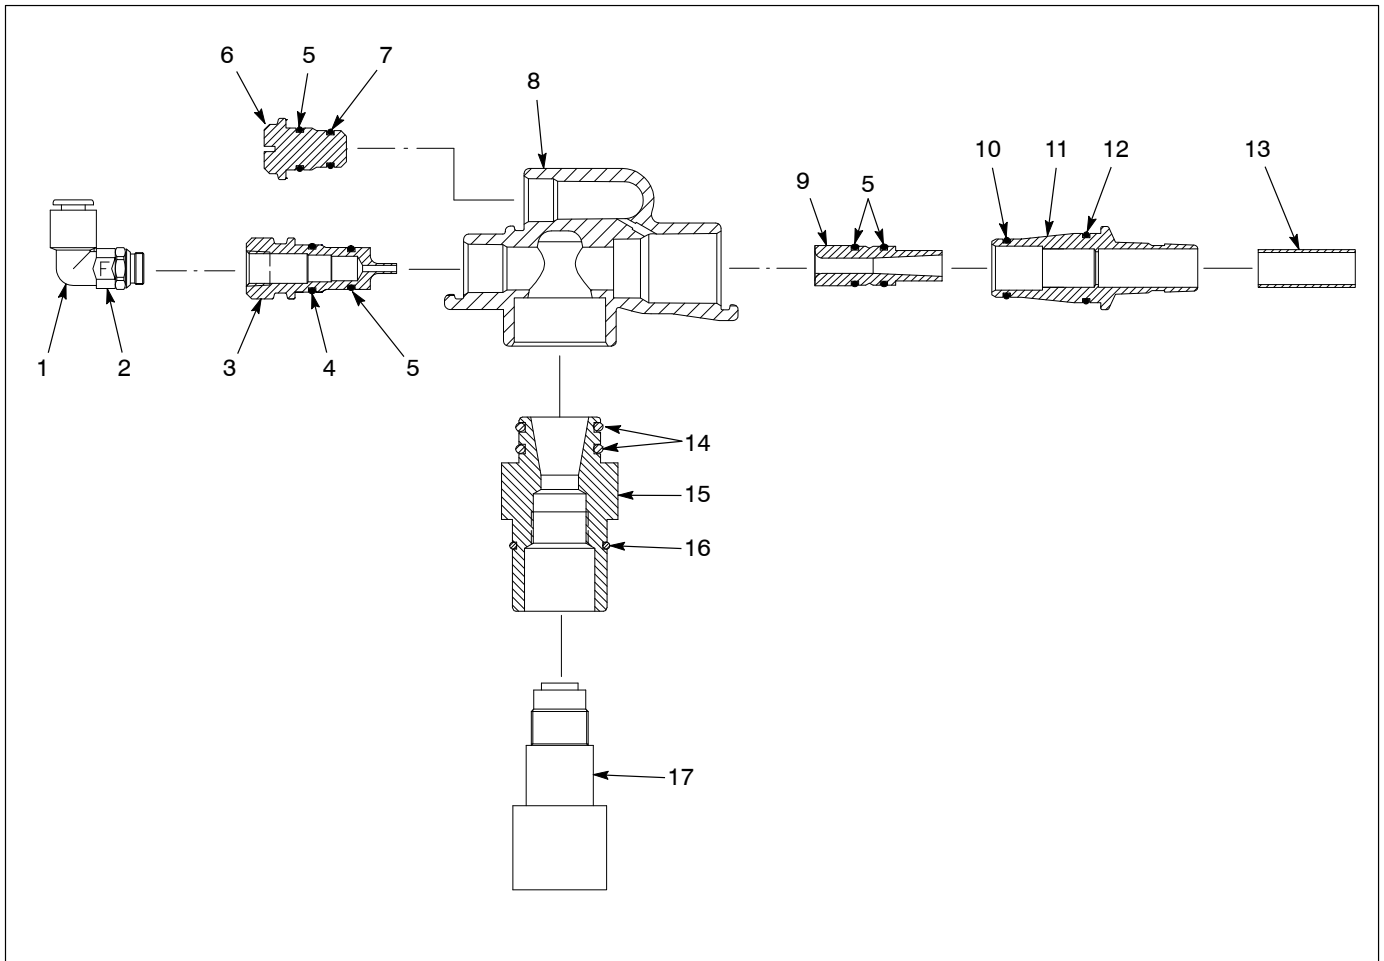

Fig. 2 Tribomatic Modular Pump with Adapter
2. See Figure 2. Install the pickup tube into the pickup tube holder (20).
3. Thread the pickup tube holder (20) into the adapter (16). Press the adapter into the pump mount with a slight twisting motion.
4. Install the pump (8) on the adapter. Connect the air tubing and powder feed hose to the pump.
See Figure 2.